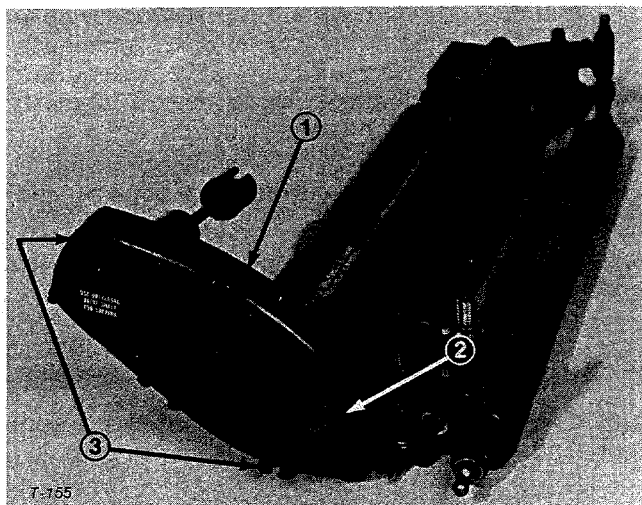
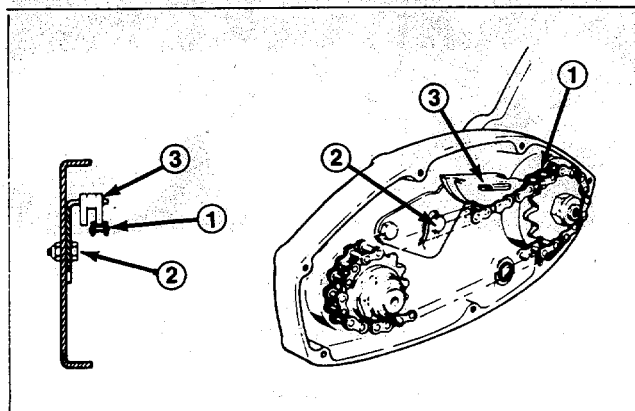

Figure 45
Figure 46
Once each year, check the chain assembly inside the cutting unit chain case (Fig. 45). Use the following procedures:
2. Remove Allen head set screw anchoring reel shaft to cover (Fig. 45).
3. Remove 5 cover screws and 2 tapered nuts and remove cover (Fig. 45).
4. Check chain for excess slack (Fig. 46). If chain is too slack, loosen mounting screw for chain idler shoe, push shoe down against chain to remove slack and tighten screw (Fig. 46).
5. Make sure a liberal quantity of lithium base No. 2 grease is around sprocket and install cover (Fig. 46). Install tapered nuts first to make sure cover is aligned with the case (Fig. 45).